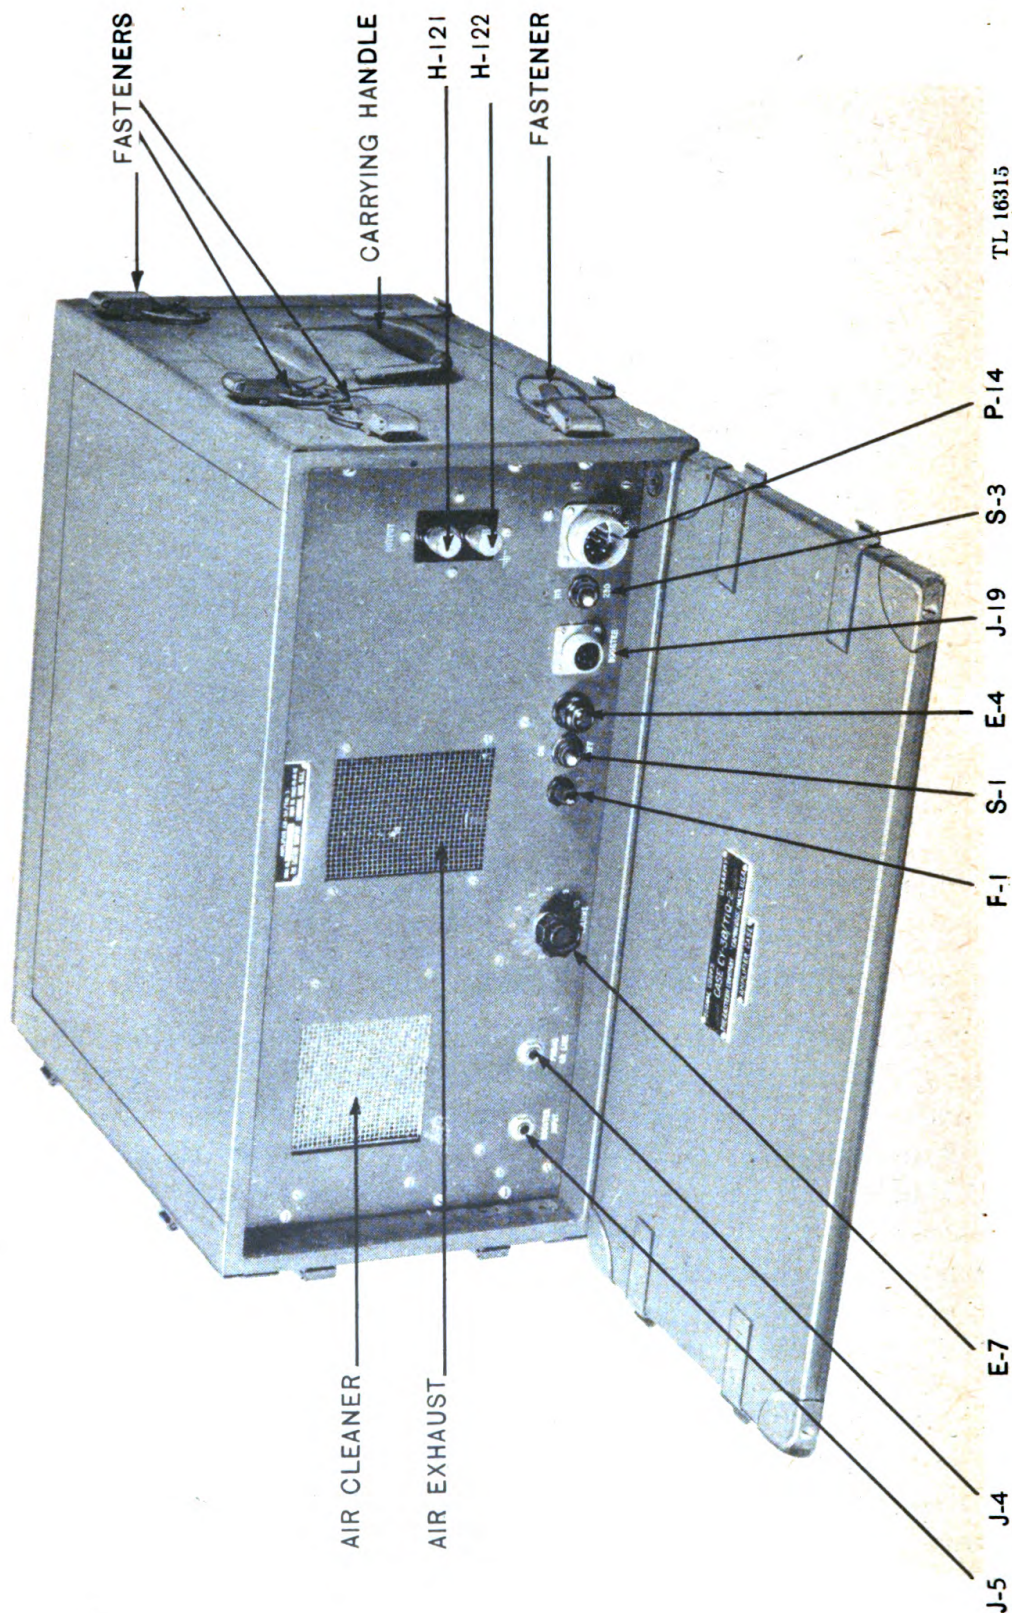

Figure 3. Amplifier AM-34/TIQ-3 and Case CY-38/TIQ-2.
b. Amplifier AM-34/TIQ-3 (fig. 3). The amplifier unit is fastened by six screws in a Case CY-38/TIQ-2 marked AMPLIFIER. This case is identical with the case containing the control unit (subpar. a above) except for the marking. All control knobs, switches, power, input, and output connectors necessary to the operation of the amplifier are mounted on the front panel. This unit amplifies the output voltage of the control unit. The output of the amplifier is connected back to the control unit for distribution. The tubes in the amplifier unit are cooled by an electrical blower unit. The circuit of the amplifier is described on a label mounted on the inside of the base plate of the amplifier unit.
b. Remove the front cover from Case CY-38/TIQ-2 marked AMPLIFIER by loosening the four catch fasteners securing this cover, and set up the case in the location selected (fig. 3).